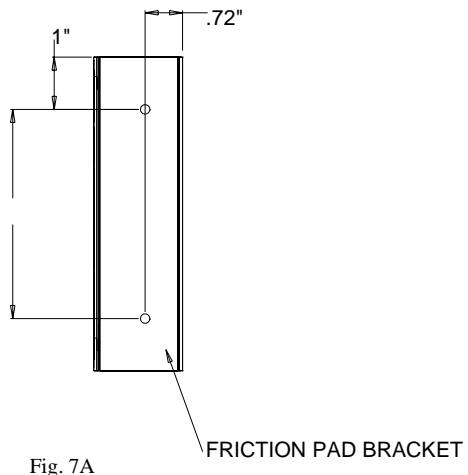
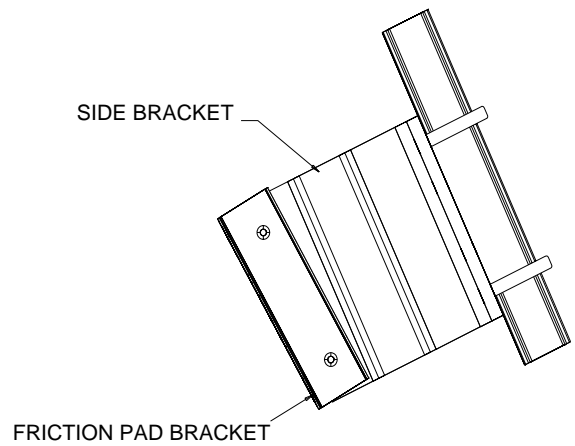
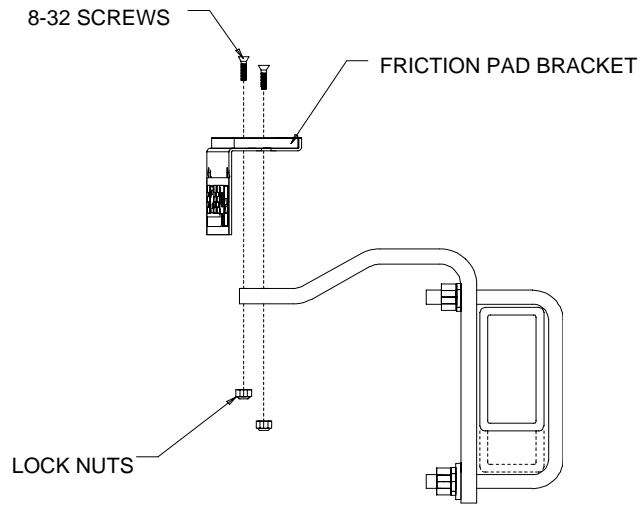

Fig. 7A
Fig. 7B
Fig. 7C
7. MOUNT THE FRICTION PAD BRACKET - Mark the location of the .172 dia. holes (11/64 drill) on the friction pad (27) as shown in Fig 7A. Place the friction pad on the side bracket (31) as shown in Fig 7B. and drill the .172 dia. holes through both the friction pad and side brackets (Countersink the holes in the friction pad bracket (27) so that the head of the 8-32 screw (26) is approximately 1/16" below the surface). Install the two 8-32 screws (26) and lock nuts (36) as shown in Fig 7C.